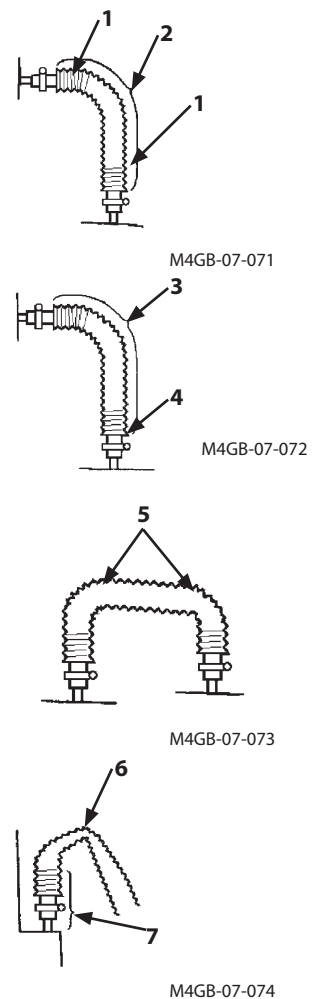

Fig.1
**NOTE:** Refer to the illustrations in Fig.1 for each check point location or for a description of the abnormality. Use genuine Hitachi parts.